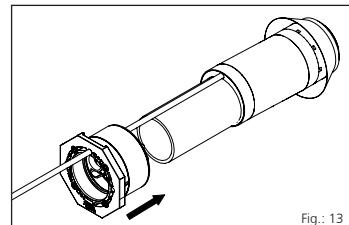

Fig.: 13
- 5** Lubricate the resin filler tube and insert it into the relevant opening in the internal sealing element. Then push the internal sealing element over the sleeve pipe of the MIS100ND VT63 (see Fig. 13).